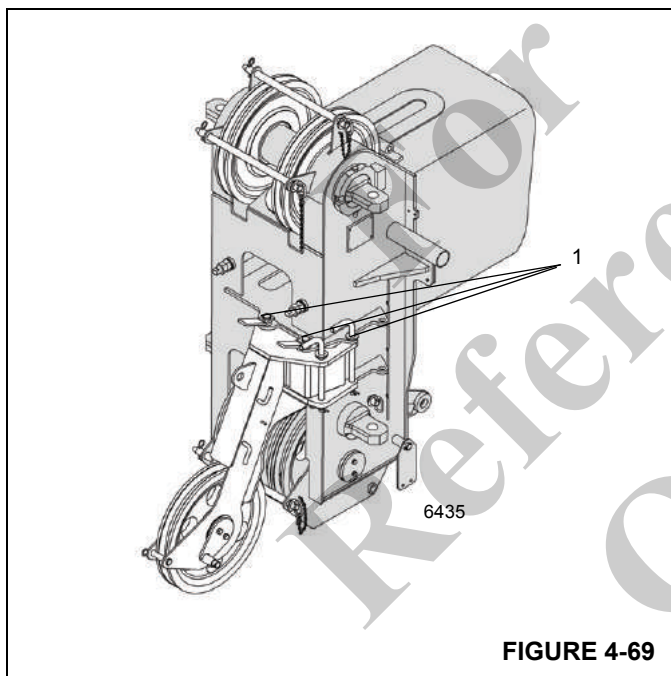

FIGURE 4-69
In the working position, the auxiliary single-sheave boom nose is positioned in front of the main boom head and is fastened with three pins (1) Figure 4-69.